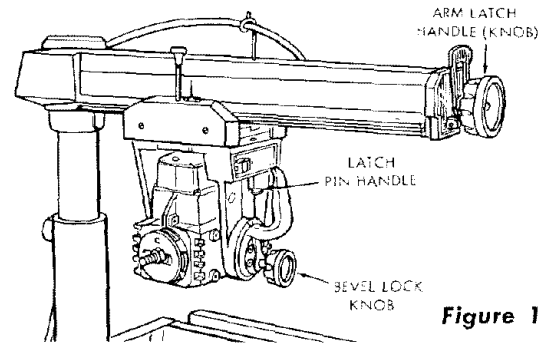

Figure 14
- a. Loosen the carriage lock knob and lift up on the latch pin handle. (See figure 14.)